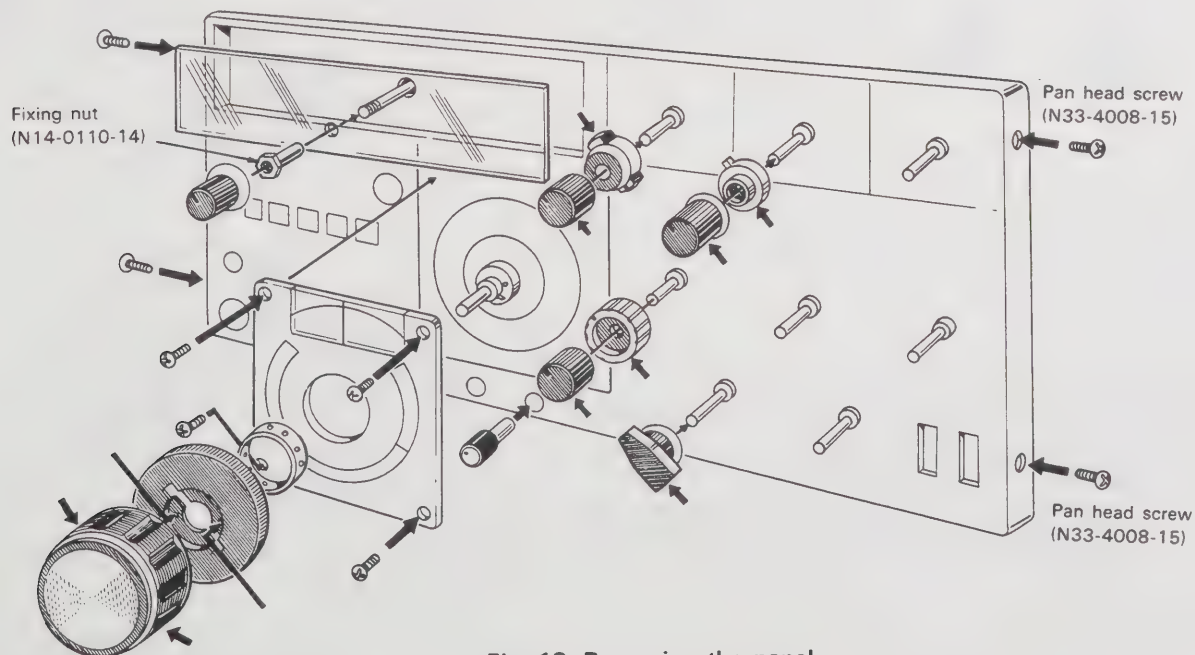

Fig. 13 Removing the panel
- 3) Remove the screws from both sides of the panel according to **Fig. 13**.